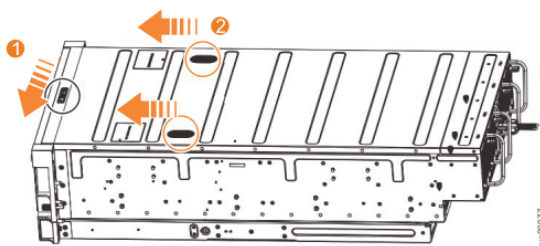

Figure 132. Releasing the 5U expansion enclosure cover
2. Slide the release latch (**1**) in the direction that is shown in Figure 132 on page 199.
3. Slide the cover toward the front of the expansion enclosure (2), as shown in Figure 132 on page 199.